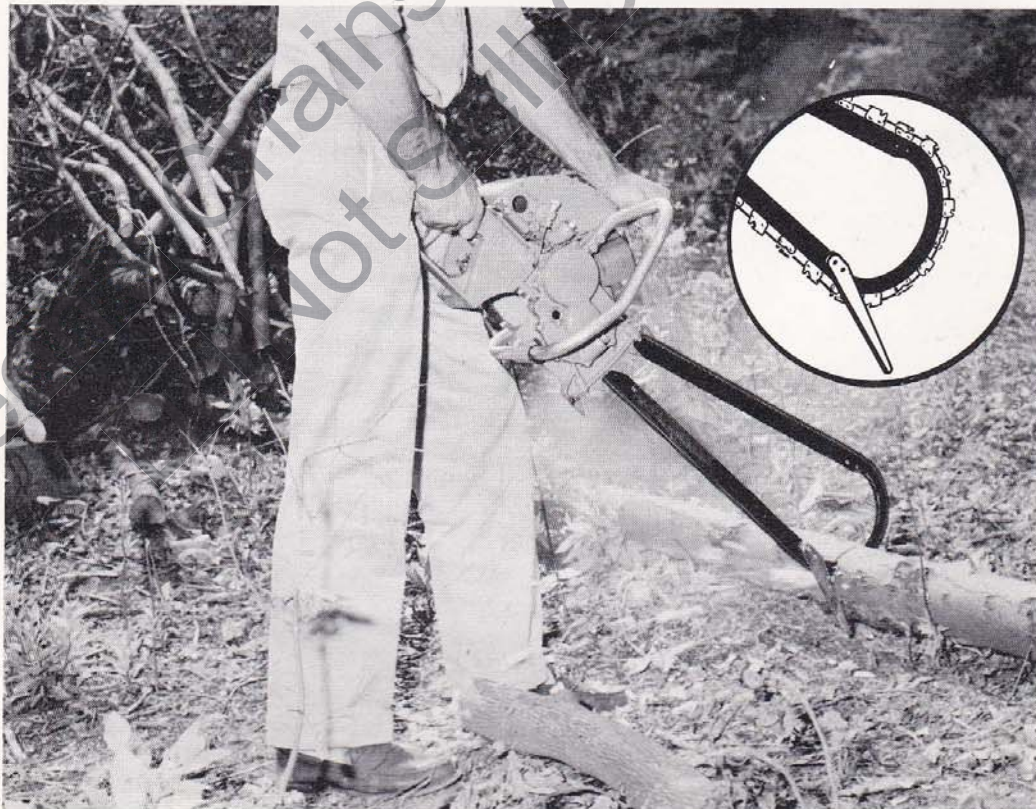

Figure 9—Bucking and Clearing Attachment
(1) The Clearing Attachment (Part No. A-56169-A) takes the stoop and squat entirely out of clearing jobs. It is designed to cut anything from twigs to eight inch diameter trees. However, the attachment can also be used to cut larger diameter wood and serves well as a general purpose tool.
(2) Use the plunge-cut method on all felling, bucking, limbing, and pruning cuts eight inches or less in diameter. Place the plunging spur (See Figure 9) against the work and depress engine throttle. Push the curved front edge of the blade straight through the wood. If desired, use a slight pivot action.
(3) When wood is too large to be cut with the front section of the attachment,